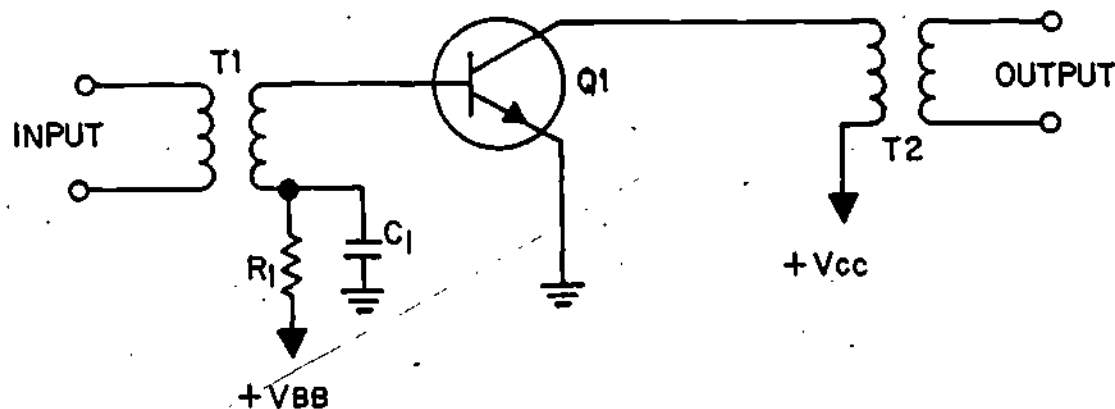

Figure 1
3. We may use tuned or untuned coupling circuits in amplifiers. Tuned coupling circuits are far more common, and will be covered later on in this lesson. For now, look at Figure 1 and see if you remember this type of circuit from your study of basic amplifiers.
The coupling devices T1 and T2 are untuned, air-core transformers. They will pass a wide band of radio frequencies. This would make the amplifier in Figure 1 an untuned RF amplifier.
The RF amplifier in Figure 1 is (tuned/untuned) which allows it to pass a (wide/narrow) band of radio frequencies.